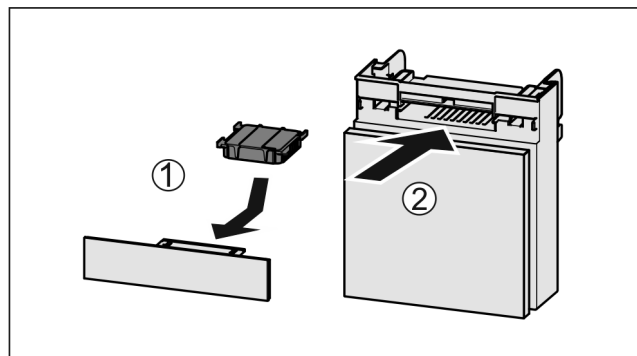

Fig. 38
- Insert the carbon filter as shown in the diagram Fig. 38 (1).
- Push the compartment in Fig. 38 (2).